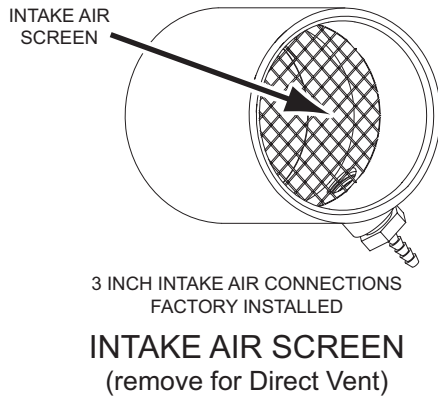

Figure 18
- Ensure the Intake Air Screen on the Intake Air Connection to the water heater is removed before connecting the intake air pipe to the water heater. See Figure 18.